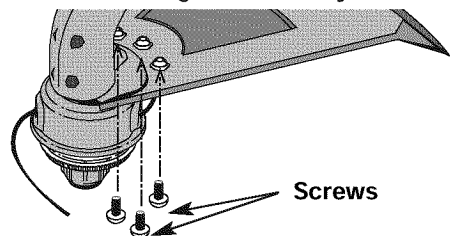

Fig. 6
3. Install a screw into the hole from the bottom of the cutting attachment shield and screw it into the nut installed in step 2 (Fig 6). Do not tighten.